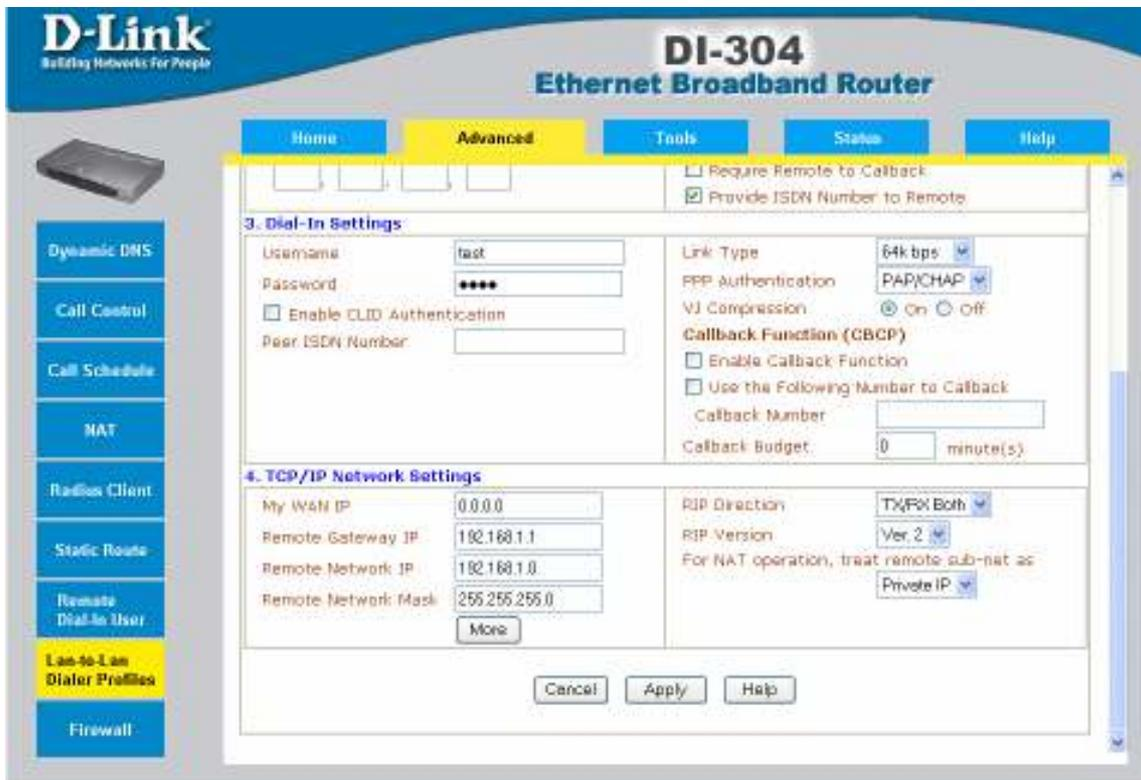

Figure 33: LAN-to-LAN Profile of ISDN Router 2 (2)
- Finally, the IP setting have to match the IP address range of the local network, in order to allow correct routing and dial-in support. (Figure 33).